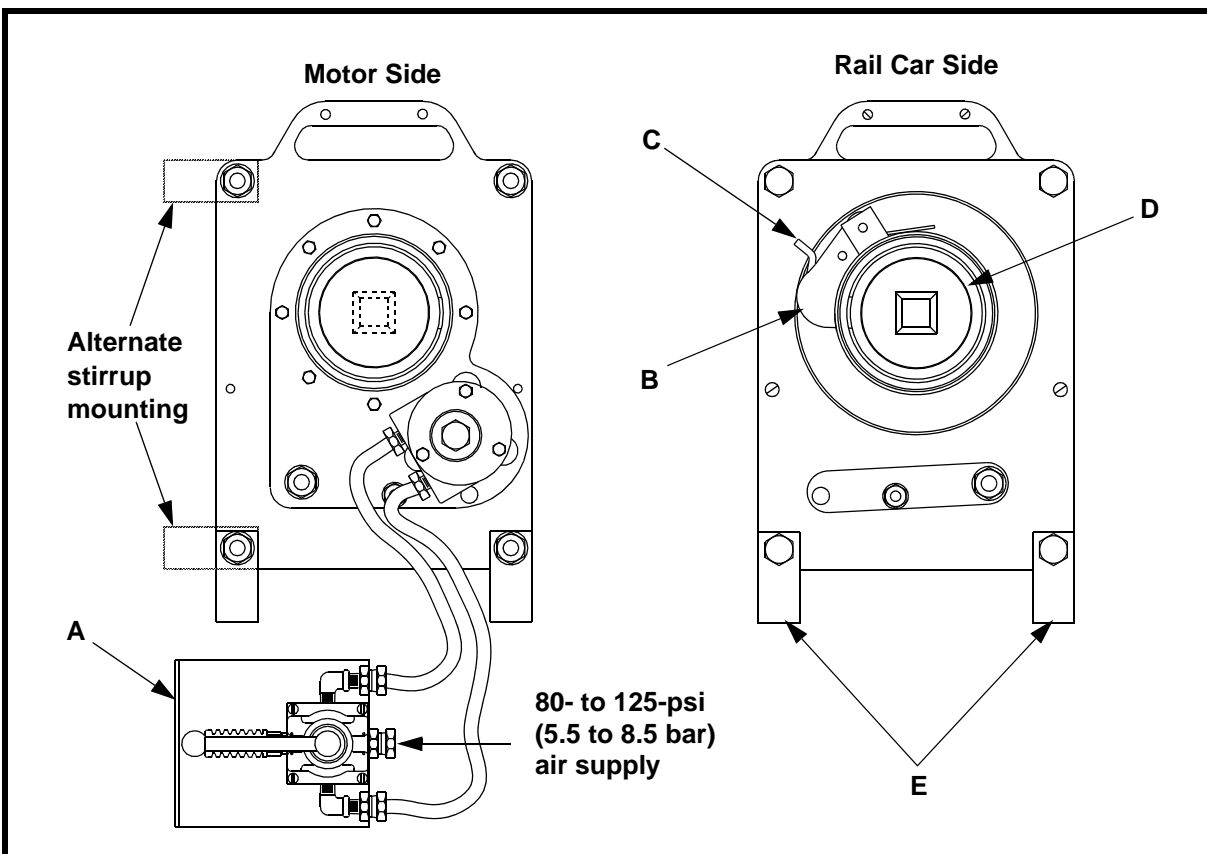

Figure 1. Operating GATE JACK M90 Gate Opener
1. See Figure 1. With control valve (A) in closed position, connect filtered and lubricated 80- to 125-psi (5.5- to 8.5-bar) air supply to control valve inlet.
2. Retract the dog (B) by moving the release lever (C) until it stops.
3. Place the GATE JACK Gate Opener over the capstan (D) on the rail car. With the stirrups (E) pointing down, release the dog into a capstan hole.